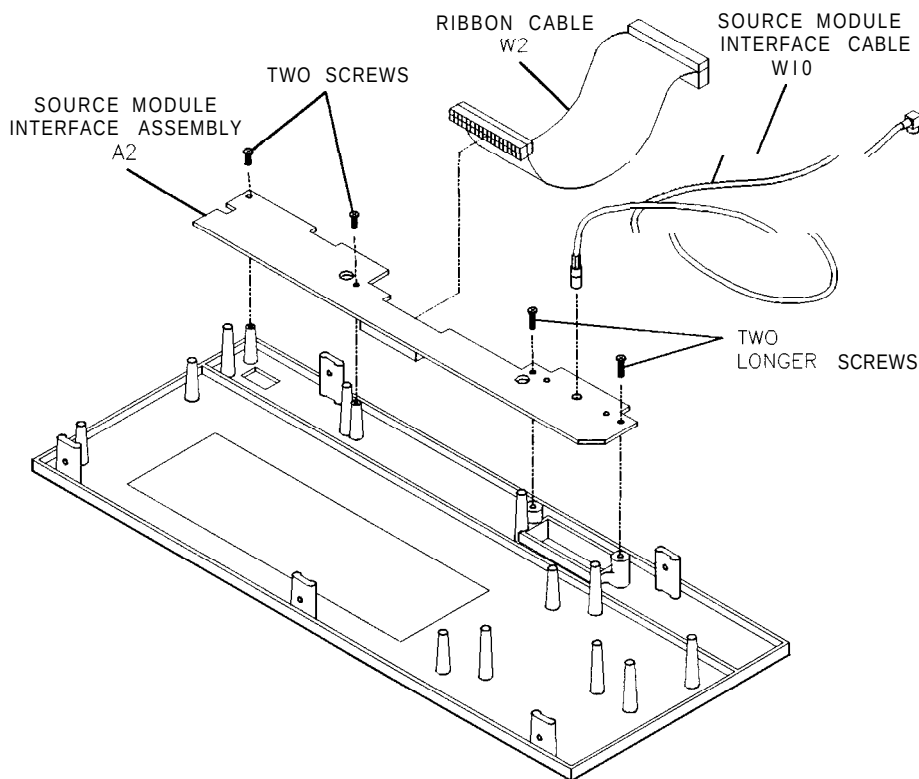

Figure 7-6. Source Module Interface Removal
1. Remove the source module interface cable (W10). Refer to Figure 7-6.